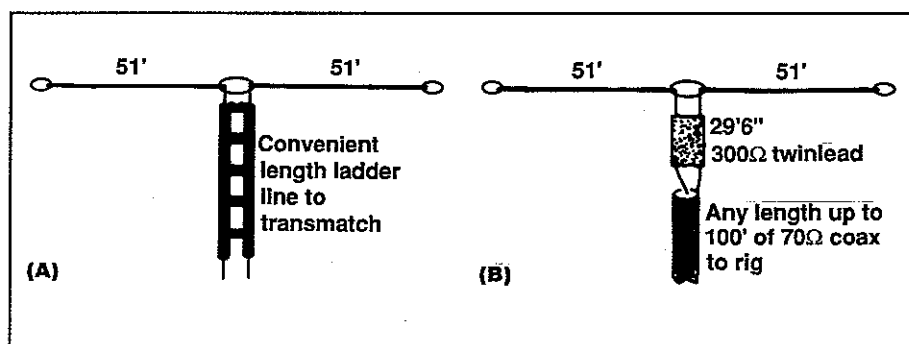

Fig. 1— At (A) is the standard G5RV configuration. At (B) we have a system that "might" match a 50 ohm load.
Some stubborn amateurs did not want to use a tuner or Transmatch, so they tried other methods of feed. The first, or just tuned feeder, is shown in fig. 1 at (A), and
the other method of using a combination of different impedance lines is shown at fig. 1(B). (This is as Varney describes the feed in the *RSGB Handbook*.)
It is worth noting that *The W6SAI HF Antenna Handbook* by Bill Orr, W6SAI (available from CQ) has considerable information on various combinations of the G5RV method shown at fig. 1(B). As Bill points out in his excellent book, there are many controlling factors that can affect the SWR when trying to accomplish multiband operation. In many cases, some of these modifications put the SWR figure well over 3 to 1, making transceiver shut-down a problem. That's why I recommend a Transmatch. In this case, the excellent antenna can be used on all bands and all
How about using the G5RV as an inverted V? Many amateurs have done so, but keep in mind that as a rule a horizontal dipole will always work better than an inverted V. Also, with the matching line section shown in fig. 1(B), it is difficult to predict what will happen. The only rule I would throw in here is McCoy's rule: If the darn thing works, leave it alone. Remember, there is a very old rule I learned in amateur radio many, many years ago. The rule is don't be afraid to experiment.